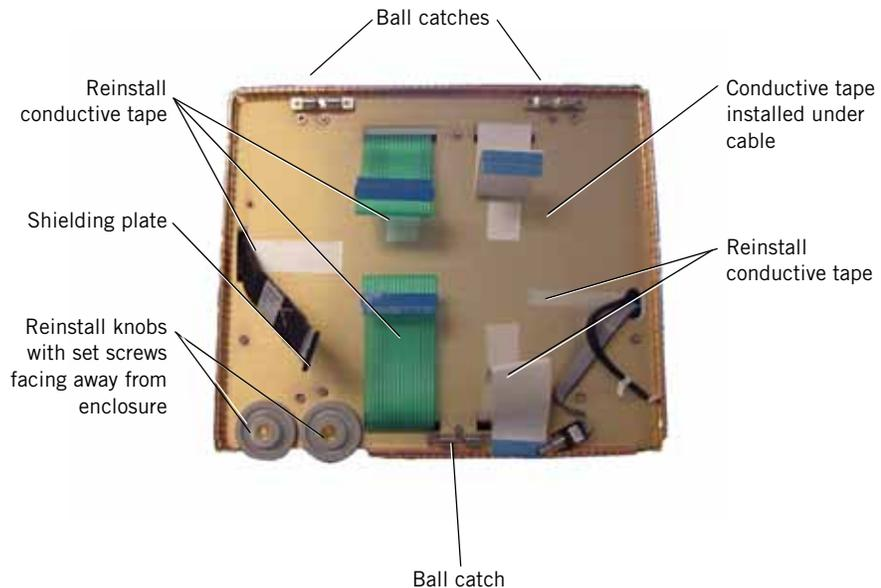

Figure 9-94: Front of Ventilator Before Installing 10.4-in. GUI
11. Attach the new shielding plate and conductive tape (Figure 9-94).